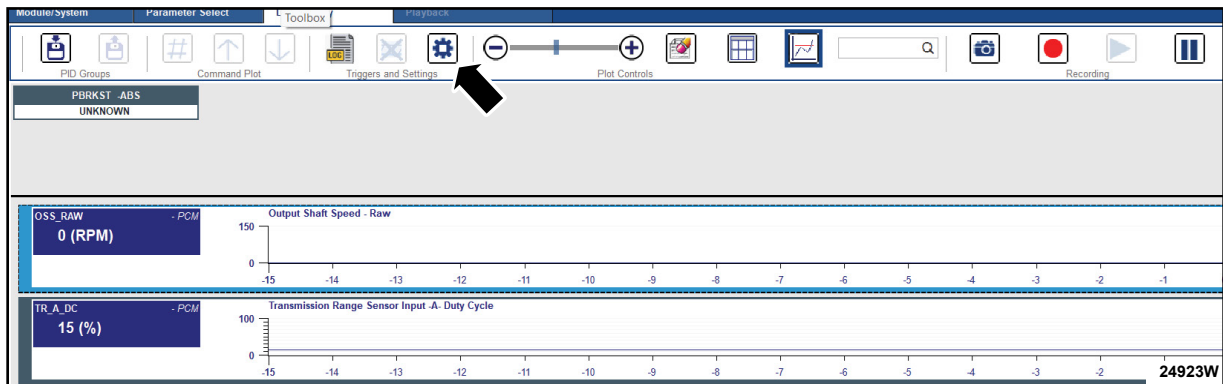

FIGURE 3
9. Select the **OSS_RAW PID/Graph** and then select the **Settings** icon. See Figure 3.